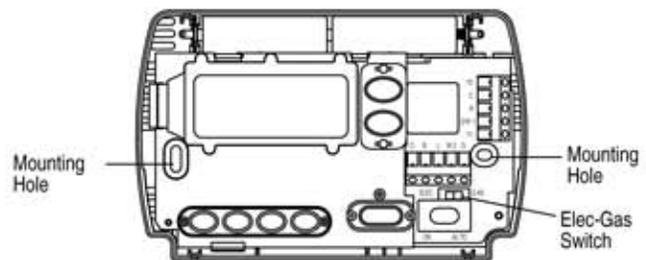

Figure 1 – Thermostat base
5. Fasten base loosely to wall, as shown in fig. 1, using two mounting screws. Place a level against bottom of base, adjust until level, and then tighten screws. (Leveling is for appearance only and will not affect thermostat operation.) If you are using existing mounting holes, or if holes drilled are too large and do not allow you to tighten base snugly, use plastic screw anchors to secure subbase.
If "**BATT**" is displayed, the batteries are low and should be replaced with fresh "AA" Energizer® alkaline batteries. To replace batteries, set system to **OFF**, install the batteries along the top of the base (see Fig. 1). The batteries must be installed with the positive (+) end to the left.